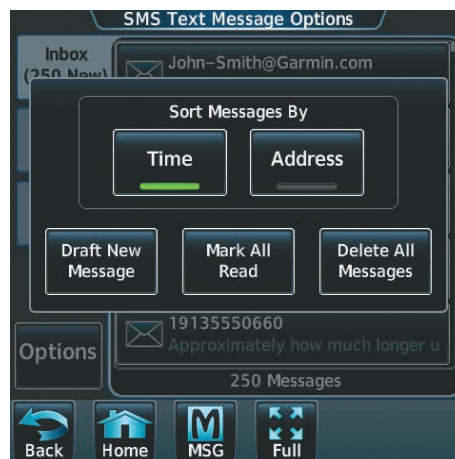

Figure 8-82 Message Sort Options
- 2) Touch the **Options** Tab. The 'Sort Messages By' selections are displayed as in Figure 8-82.
- 2) Touch the **Options** Tab. The selection buttons are displayed as in Figure 8-82.